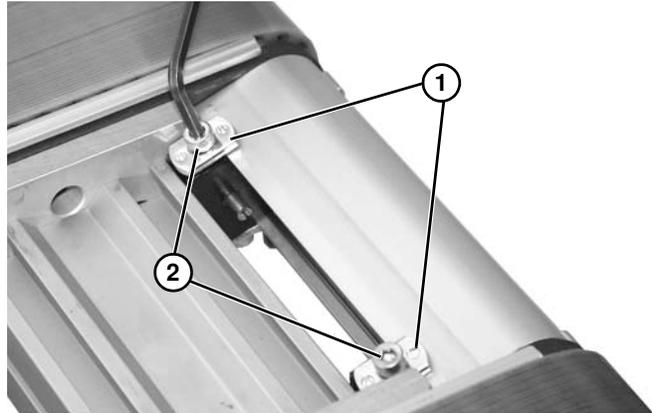

Figure 32
13. Secure top and bottom guards with weld nut (Figure 32, item 1) and screw (Figure 32, item 2) on each side of assembly. Repeat on bottom side.
14. Tighten screws (Figure 32, item 2).